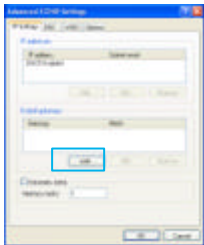

Figure 5
6. The <Advanced TCP/IP Settings> dialog box appears. At the [IP Settings] tab, check that the IP Address is set to Enable DHCP. (Figure 5)